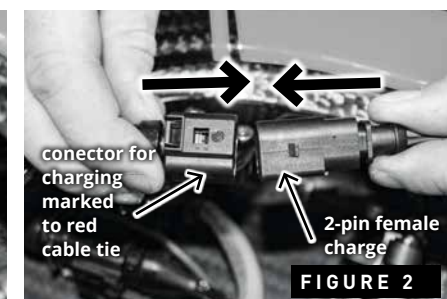

FIGURE 2
3) Connect the charger to the charging connector on the control unit (ICU) – FIGURE 2. **Never disconnect the charger when charging from the ICU!!!**